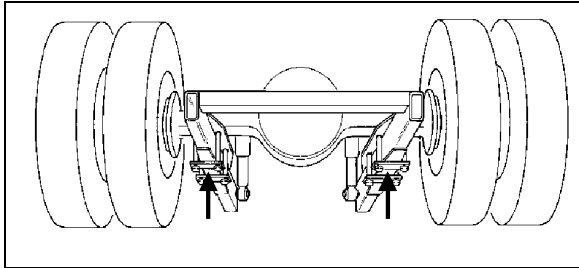

FIGURE 6: JACKING POINTS ON DRIVE AXLE H3B762
8. Install jacks under the axle jacking points to support the axle weight (refer to Figure 6).